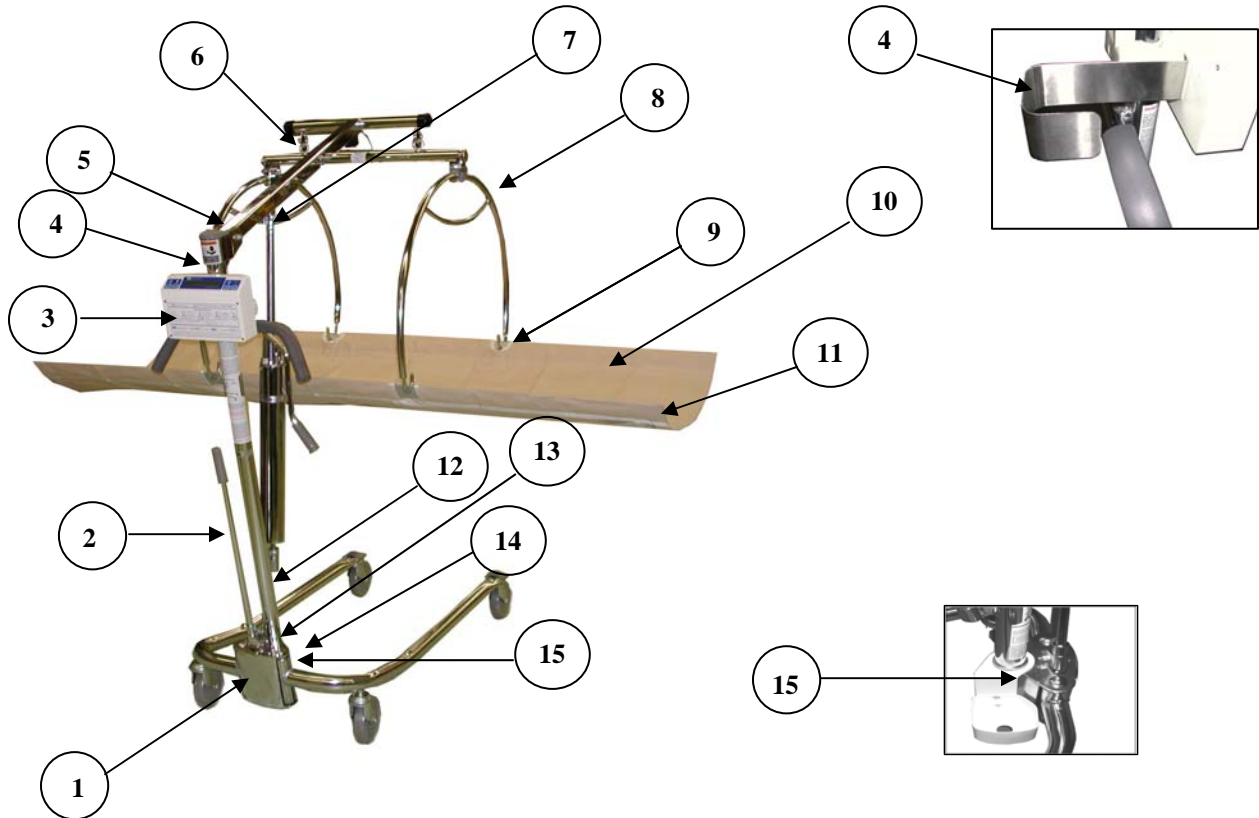

Figure 1: Assembled SR255 Daily-Weigh™ Scale
STEP 2: (Figure 1) Verify that the serial number on the Display Unit (3) matches that on the Transducer Bar (6).